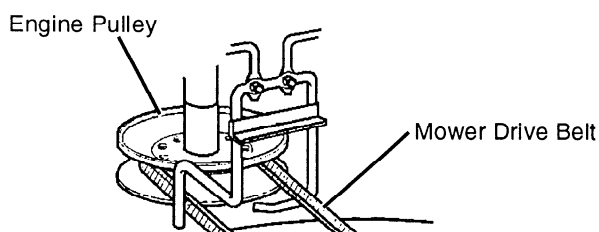

FIG. 52
- Install mower drive belt on engine pulley. (See Fig. 52)
96 cm Mower Deck: (See Figure 52 and 53)
117 cm Mower Deck: (See Figure 52 and 54)